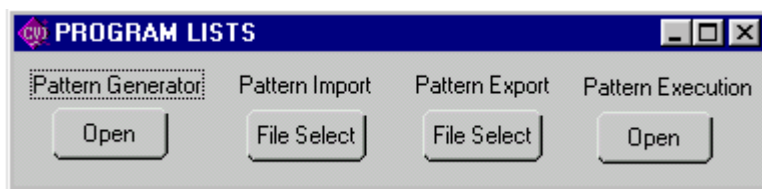

FIGURE 11. PROGRAM LISTS WINDOW
2.2.10 Running or generating a program (pattern) is accomplished by clicking the **Program** button on the Main Panel, opening the Program Lists window (Figure 11). Programs can either be defined point-by-point using the **Pattern Generator Open** button, or by using the **Pattern Import File Select** button to import a file containing the program parameters.
2.2.10.2 Patterns can be imported in comma-delineated text format using the **Pattern Import File Select** button (Figure 11). The format, showing a single data point, is illustrated in Figure 12 and defined as follows: